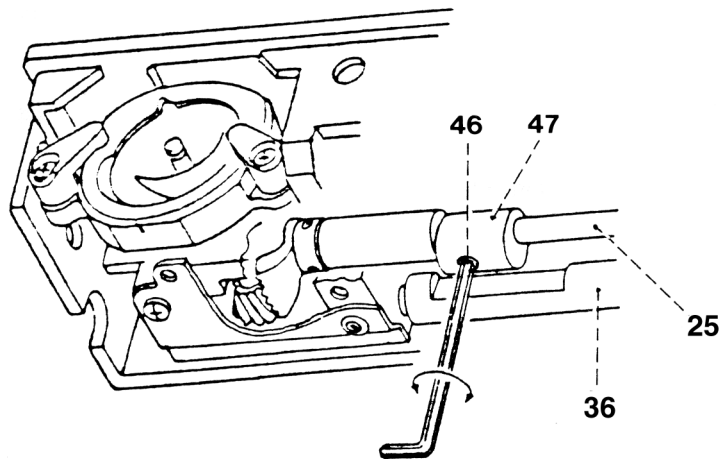

Fig. 13b
- Loosen screw 46 with a 2.5 mm Allen key (fig. 13b).
- Turn eccentric back and forth, until the Allen key rests on the feed driving shaft 36 (fig. 13b).